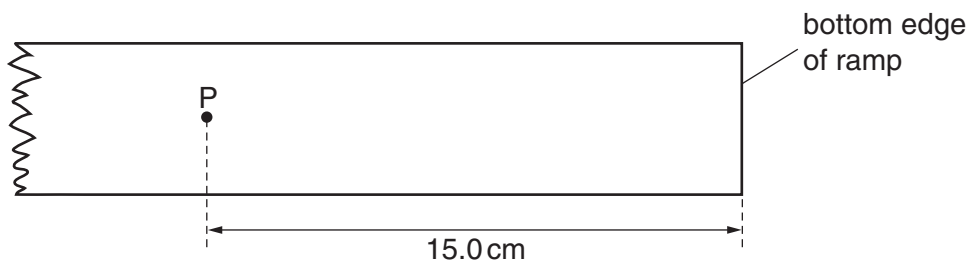

Fig. 3.1
- The ramp should be made of stiff wood and have a minimum length of 20 cm and a minimum width of 10 cm. A point P should be marked on the top face of the ramp, in the middle and 15.0 cm from the lower end, as shown in Fig. 3.1.